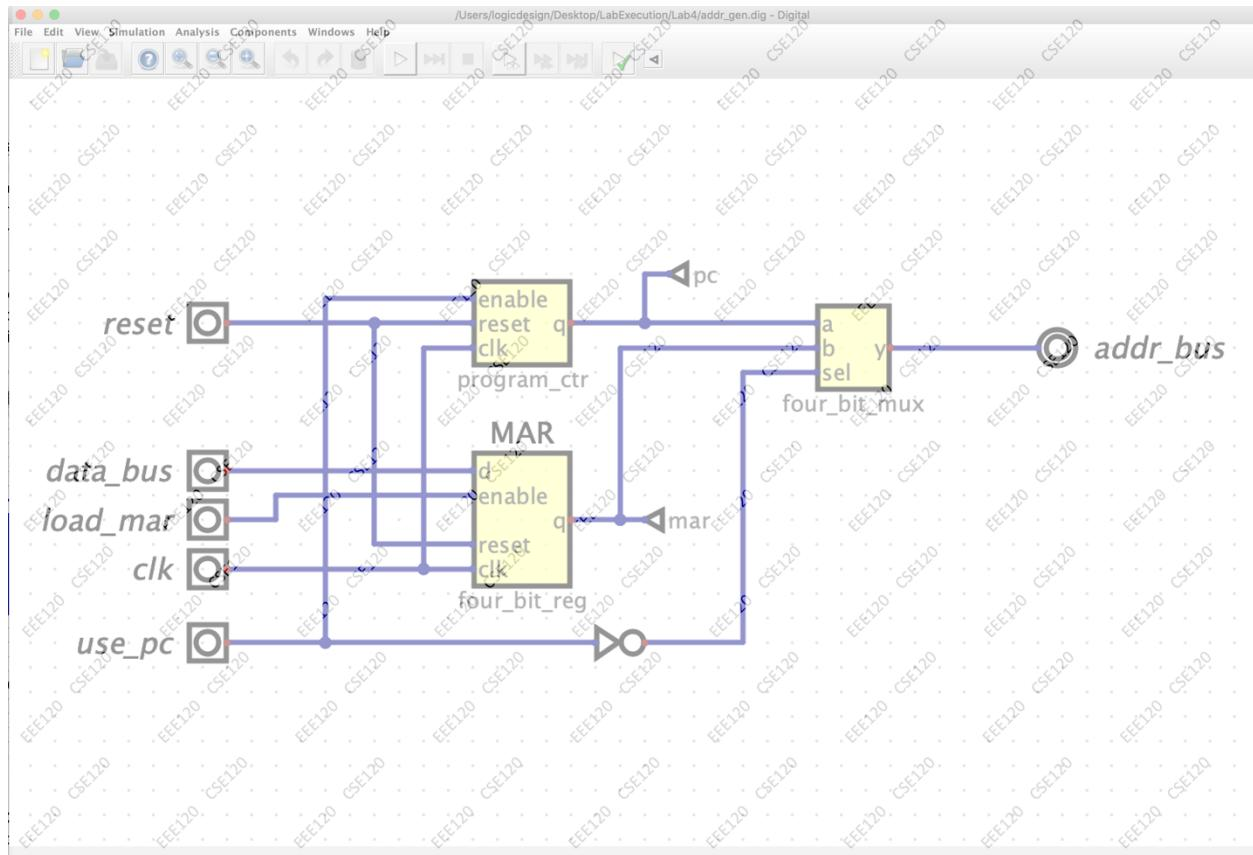

Figure 1. The Memory Address Generation circuit.
Now that your brainless microprocessor is working, we will add additional pieces of circuitry to it and assemble the complete microprocessor. The first step is to modify the 4-bit incrementer you built in Task 3-2 so that you can use it to generate the memory addresses for your CPU. The memory address generation circuit is shown in Figure 1. The memory address generation circuit is comprised of two independent pieces. One piece consists of a register and increment circuit, which is your 4-bit incrementer, and is known as the Program Counter (PC). The other piece, which accepts addresses from the data bus, is known as the Memory Address Register (MAR). This register can be loaded from the data bus and holds the address of a storage location that we want to access. This address does not have to be in sequence with the other addresses. Thus, the MAR allows us to access a specific address and that address is usually obtained from our RAM. In order to load the memory address from the **data\_bus** to the MAR, we have an enable signal that is called **load\_mar**. The output of the address generation circuit is generated by a mux, which controls whether the PC or MAR drives the address bus, **addr\_bus**. The control input to the mux, **use\_pc** (short for Use Program Counter), is high when the PC values are driving the address bus and low when the MAR contents are to be supplied to the address bus.
Open Digital and select File->New and File->Save As and name the circuit **addr\_gen**, making sure it is saved in the Lab4 folder. Then build the circuit shown in Figure 1 using the circuits you built in prior labs plus an inverter. Note that the **data\_bus** input and the **addr\_bus** output are 4-bits wide. And remember to use the \ in front of underscores when entering the labels. For